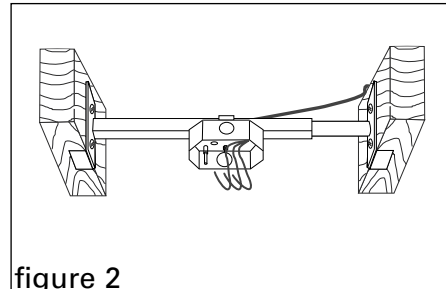

figure 2
2. Loosen the locknuts that clamp the electrical box to the bar and slide the box to the desired location (outer tube of bar only). See figure 2. Retighten the locknuts securely. Pull wire into box using clamp provided. **Do not overtighten. Tighten with hand only. DO NOT USE POWER TOOLS TO TIGHTEN.**